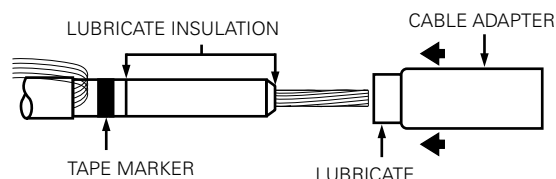

Figure 8. Line illustration of insulation cable adapter.
- Slide small end of cable adapter over cable using twisting motion until small end is flush with tape marker. (Refer to Figure 8.)